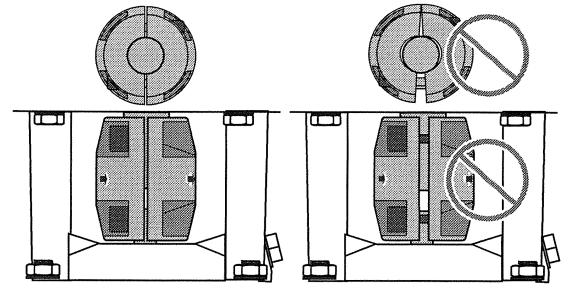

FIGURE 1 - Make Sure that the Coupling Halves are Evenly Tightened
15. Draw up the capscrews evenly so the gap between the coupling halves is equal on both sides (See Figure 1).
18. Lower the shaft halfway back down the distance you just raised it and retighten the capscrews. See Figures 1 and 2.